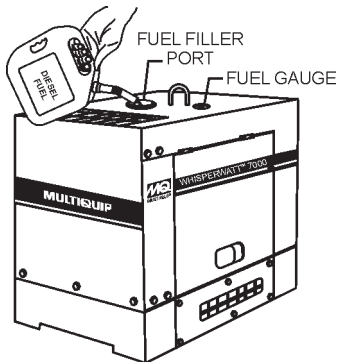

Figure 11. Adding Fuel
2. If fuel is low, remove the fuel cap (Figure 11) located on top of the generator and replenish with clean #2 diesel fuel.